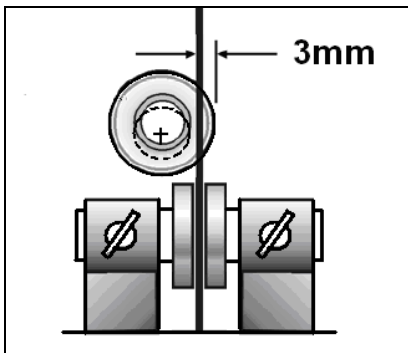

Fig 13
**Lower blade guide (Fig 13):**